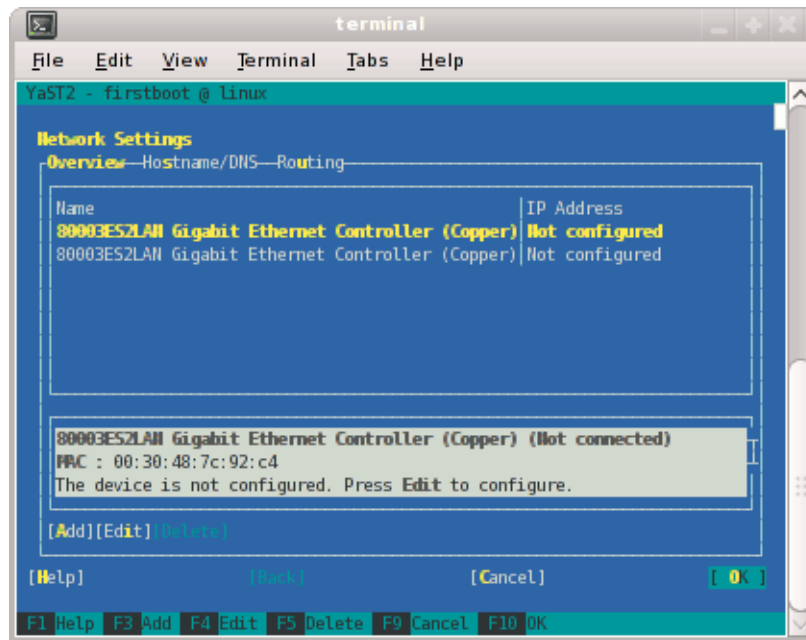

Figure 2-12 Network Settings Screen
5. From the **Network Settings** screen, as shown in Figure 2-12 on page 47, configure the first card under **Name** to establish the public network (sometimes called the house network) connection to your SGI Altix ICE 8200 system. To do this, highlight the first card and select **Edit**.
Note: In SLES11, this screen is also where we will come back to in order to set up things like the default route and DNS. You can see all of those menu choices just to the right of **Overview** in Figure 2-12 on page 47.